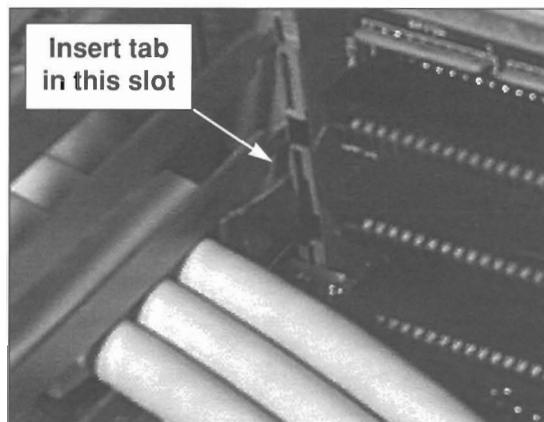

Figure 5.
- 3 (Skip this step if you are **not** using NewTek's SCSI accessory cable.) Push the entire SCSI accessory cable fully into the Amiga until the squarish, molded plastic block touches the back of the computer. Insert the metal tab at the base of the plastic block into the slot in the Amiga. See Figure 5.